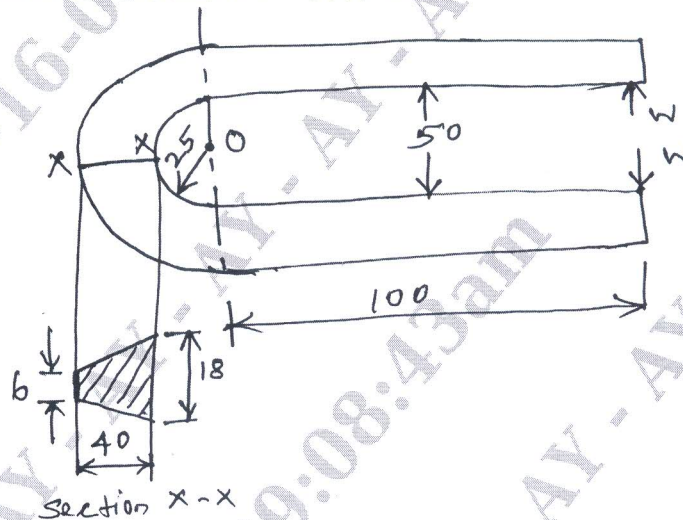

Fig.Q1
- 1 The frame of a punch press is shown in Fig.Q1. Find the stresses at the inner and outer surface at section X-X of the frame if $W = 5000 \text{ N}$.